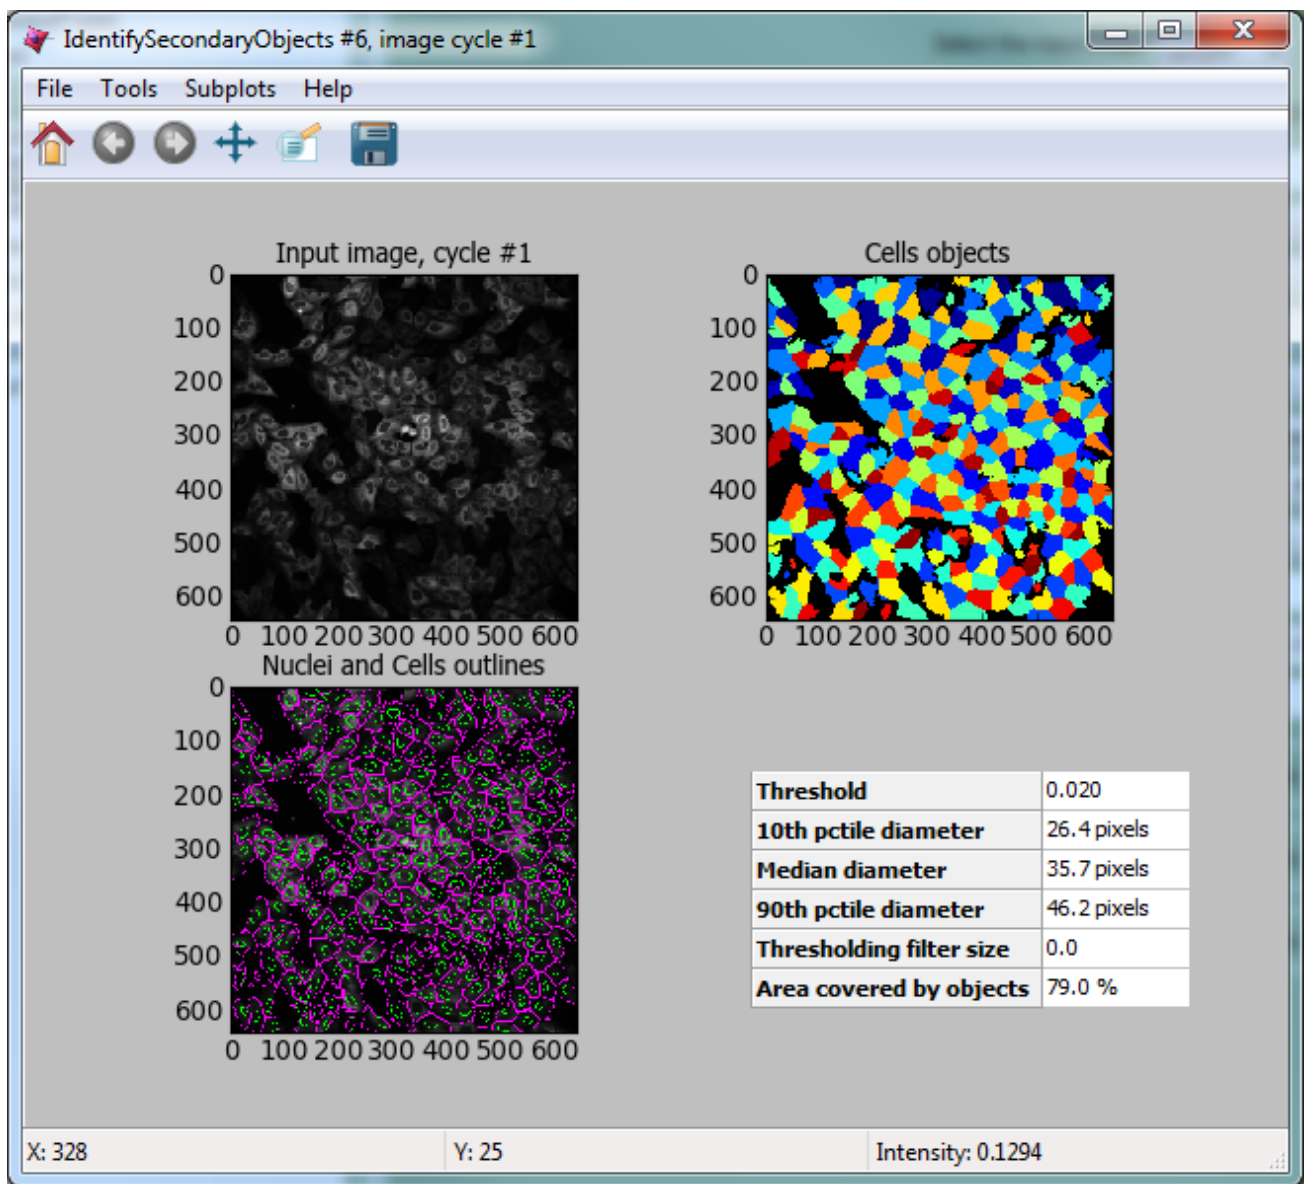

Figure 4: Example module display window for *IdentifySecondaryObjects*.
- Click on the “Step” button to execute the module and see the results of secondary object identification using the module settings (Fig. 4).